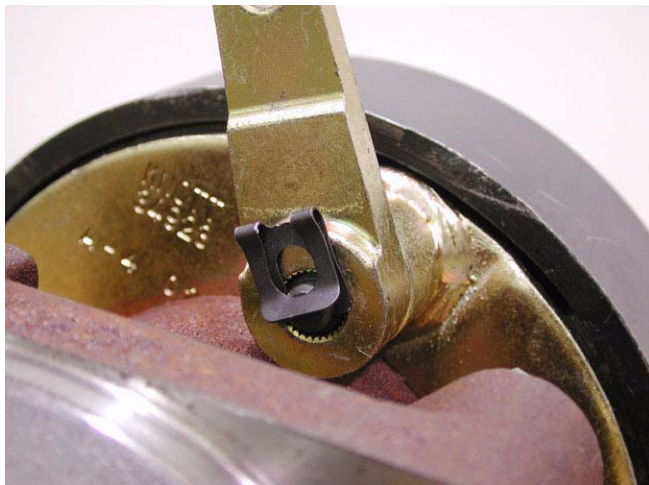

Figure 6.28
- 6.28. Install the brake arm and clip on the new hydro motor. See Figure 6.28.